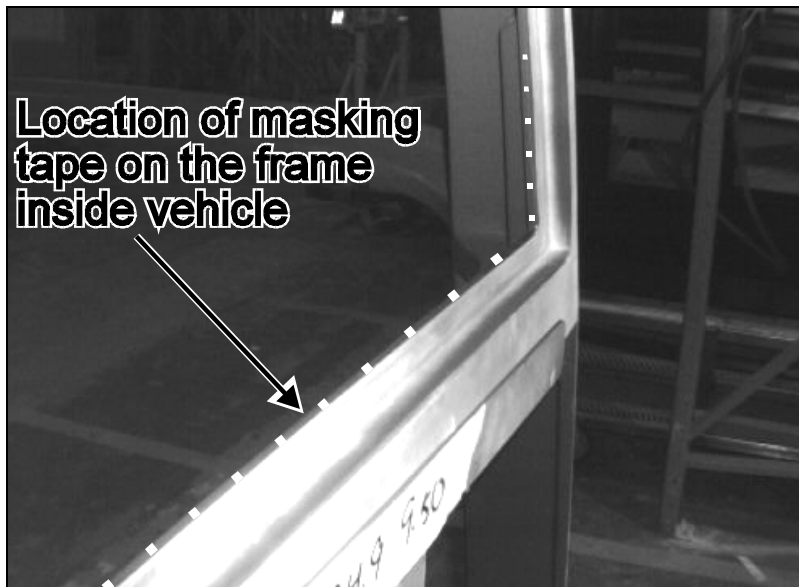

FIGURE 2: WINDOW FRAME
8. Mask the interior window frame (Fig. 2).